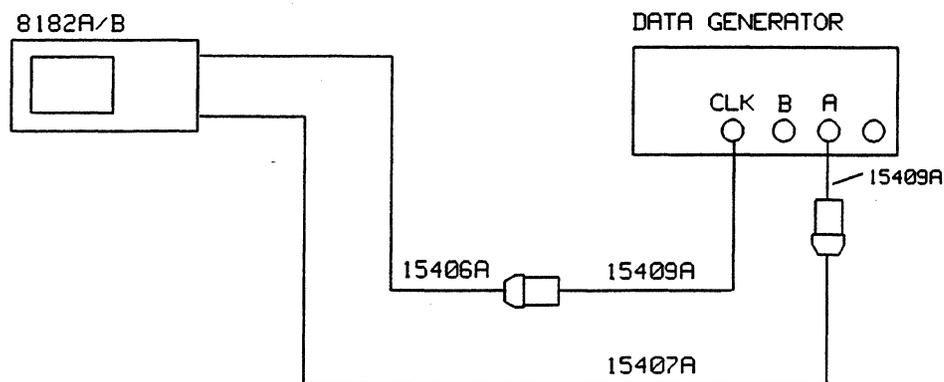

Figure 12-2. Test Setup for the Trigger Delay and Stop Delay Test
7. Connect the equipment as shown in Figure 12-2 and press RUN.